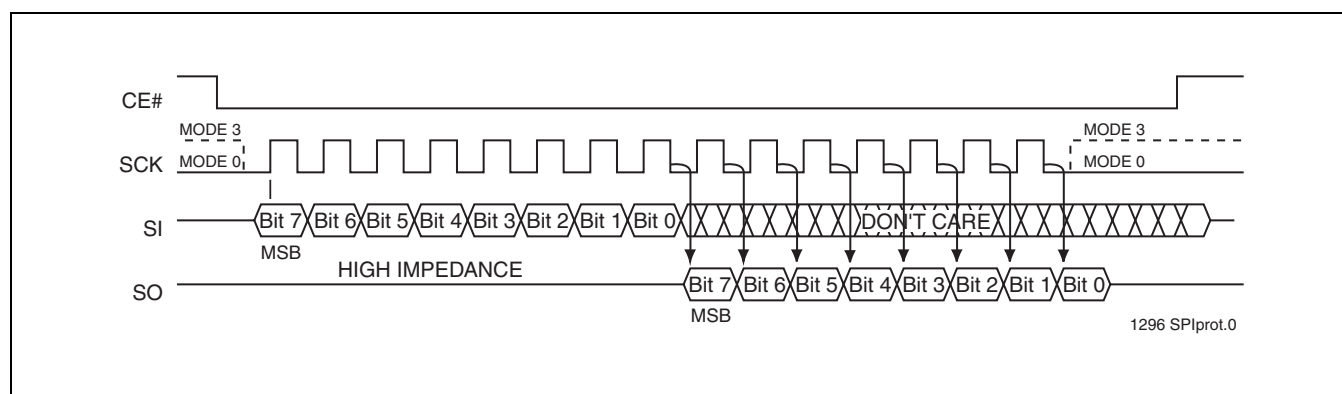

FIGURE 2: SPI PROTOCOL
The SST25VF080B supports both Mode 0 (0,0) and Mode 3 (1,1) of SPI bus operations. The difference between the two modes, as shown in Figure 2, is the state of the SCK signal when the bus master is in Stand-by mode and no data is being transferred. The SCK signal is low for Mode 0 and SCK signal is high for Mode 3. For both modes, the Serial Data In (SI) is sampled at the rising edge of the SCK clock signal and the Serial Data Output (SO) is driven after the falling edge of the SCK clock signal.